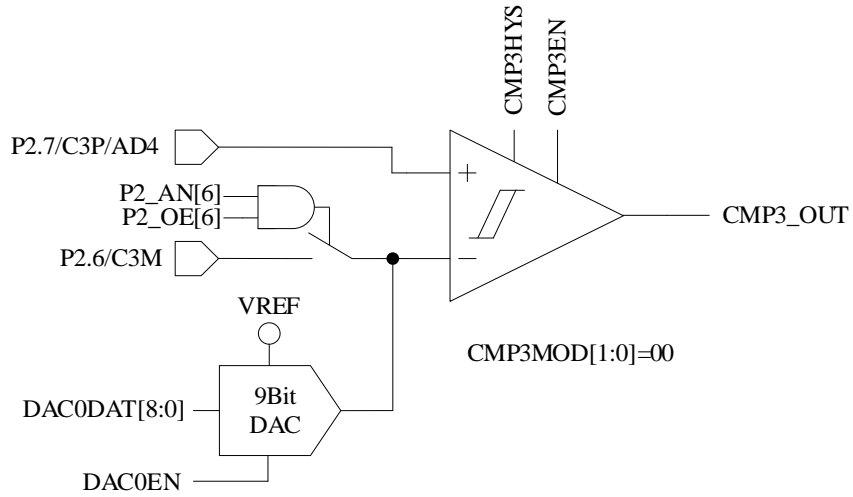

Figure 29-2 Single-comparator Input Mode
- When CMP_CR1[CMP3MOD] = 00, CMP3 works in Single-comparator Input Mode. The connection of input and output pins are shown in Figure 29-2.